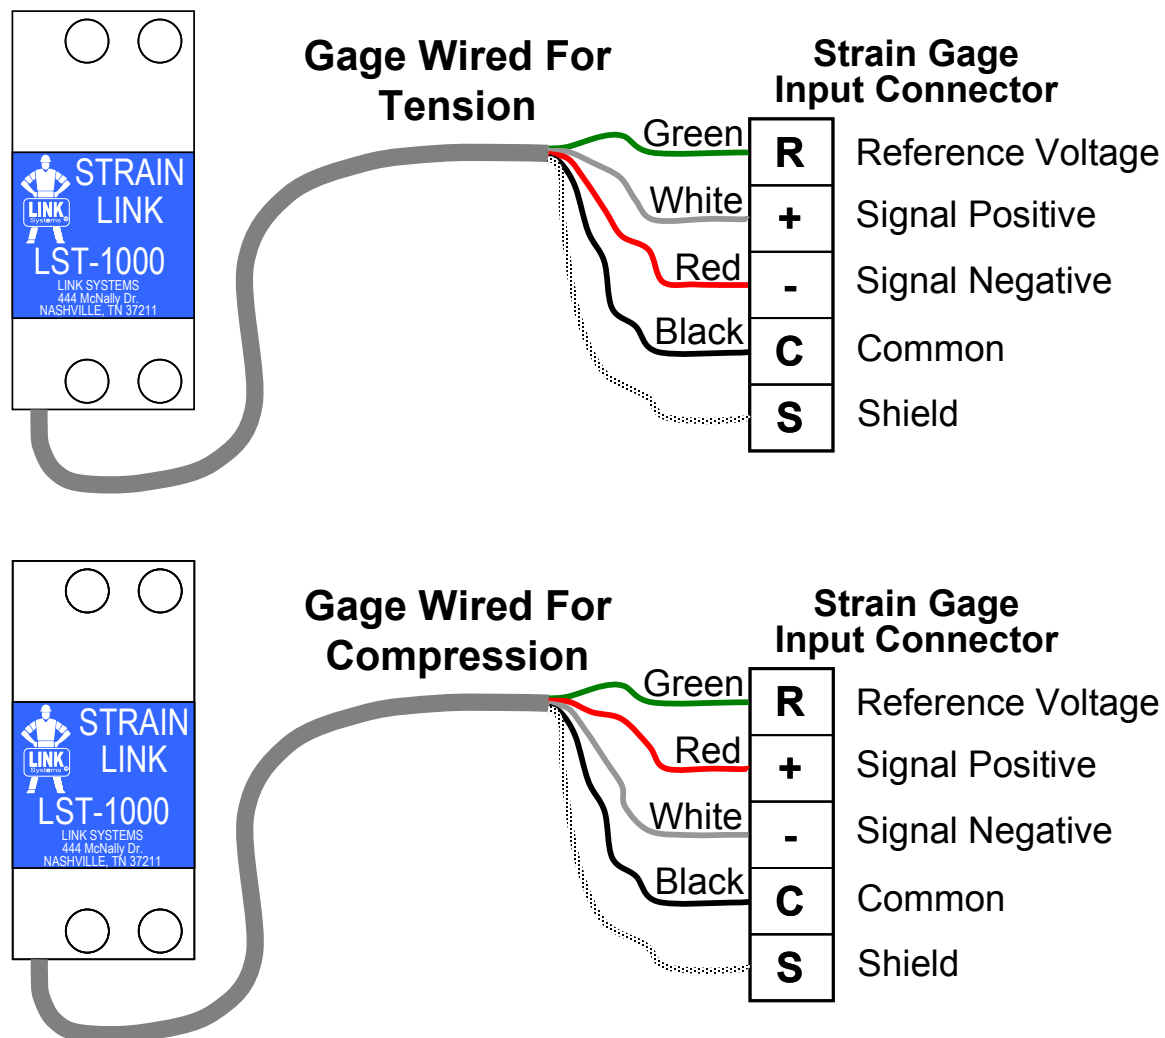

Figure 72: Strain Gage Wiring
- 4) Wire the channel connectors as shown in Figure 72. Cover or tape the shield, to avoid accidental shorting to any other point.